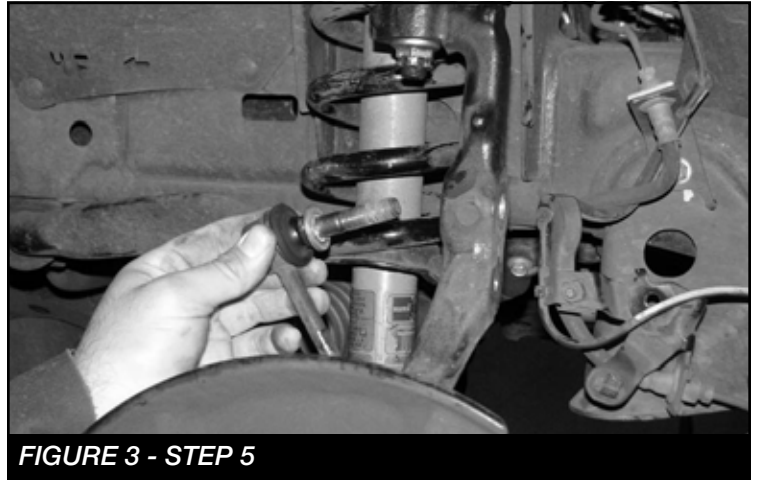

FIGURE 3 - STEP 5
5. Remove the sway bar end links from the factory steering knuckles and leave connected to the bar. Then remove the bar from the truck. Save the bar and end links with all hardware. **SEE FIGURE 3**